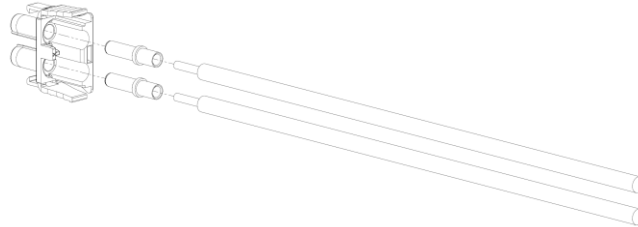
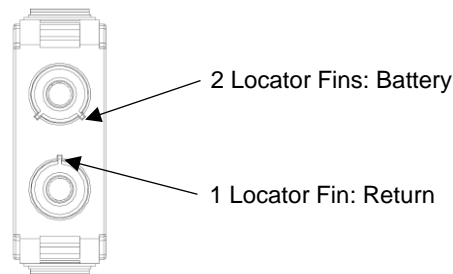

Fig. 2-10: Insert crimped terminals
Fig. 2-11: Connector front view
37. Insert terminals into plug housing as shown in Fig. 2-10 and Fig. 2-11. The battery terminal goes in the position on the connector with 2 locator fins and is marked “2”. The return terminal goes in the position on the connector with 1 locator fin and is marked “1”.